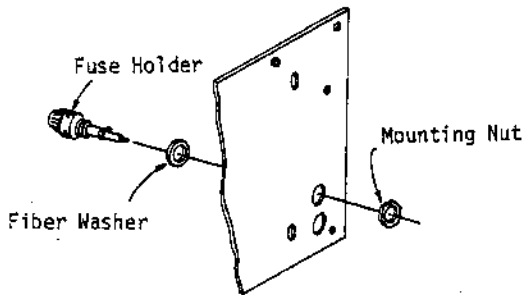

Figure 5-53. Fuse Holder Installation
(Figure 5-53)
1. Secure the fuse holder (Bag 2) into the hole provided on the back panel using a fiber washer and mounting nut as shown in Figure 5-53.